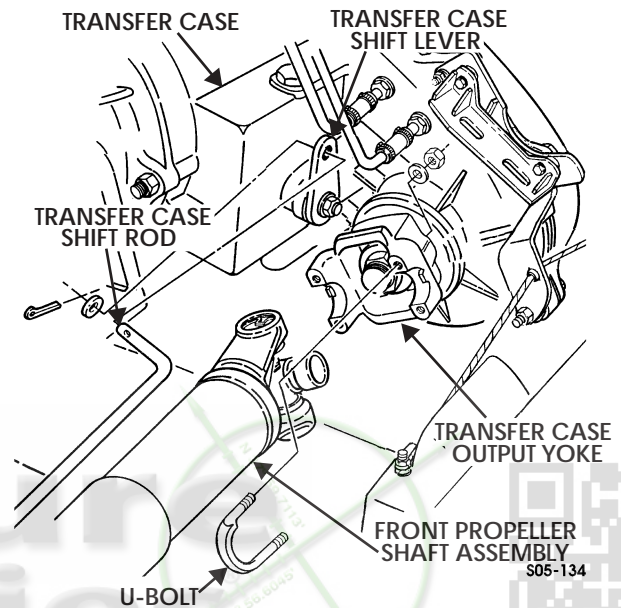

Figure 5-192: Front Propeller Shaft
1. Position front propeller shaft assembly over exhaust pipe and transfer case (Figure 5-192).